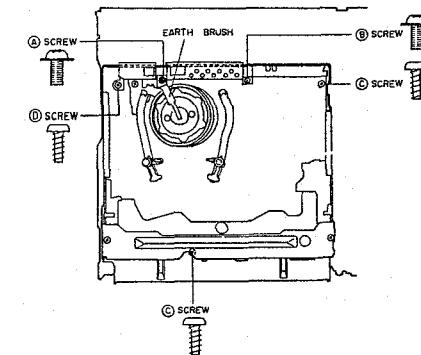

Fig. 3-24
- 1) Remove the (A) screw and remove the EARTH BRUSH as shown in Fig. 3-24.
- 2) Remove the (B) and (D) screw which fix the PRE AMP PCB then pull up the PRE AMP PCB as shown in Fig. 3-24.
- 3) Remove the two (C) screws from the MECHA. FRAME as shown in Fig. 3-24.